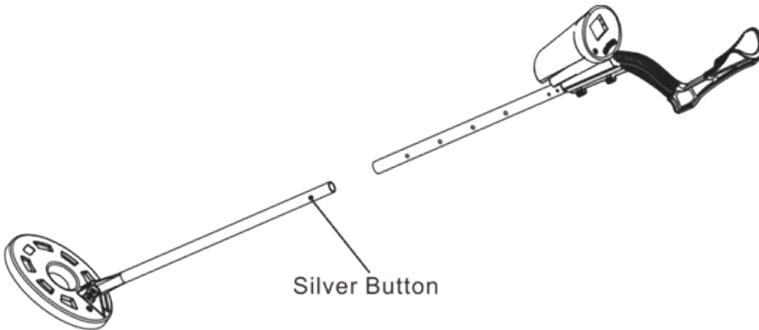

Fig.2
2. Press down the silver shrapnel on the plastic stem, and insert it to the black aluminum stem. When the silver shrapnel popping up from the black aluminum stem, you can use it. The black aluminum stem is with four holes, for you to adjust the length of the connecting rod, so that you can comfortably erect and straighten your arms, and keep the search coil away from the ground about 1/2 inch. See Fig.2, 3.